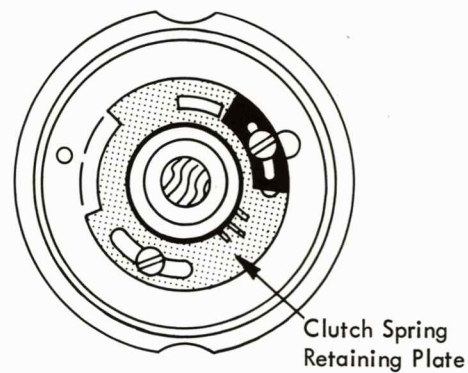

FIGURE 28. Shift Clutch Spring Retaining Plate
2. Shift Clutch Spring Retaining Plate - Adjust the retaining plate attached to the shift cam (Fig. 28) to satisfy the following condition. With the machine turned OFF and the shift cam detented, the shift clutch ratchet should rotate .028" to .059" when the shift release arm releases the ratchet. The rotation can be observed relative to the shift interlock (Fig. 29B). Half the distance from the center of one ratchet tooth to the next is  $\frac{3}{64}$ " or .047".